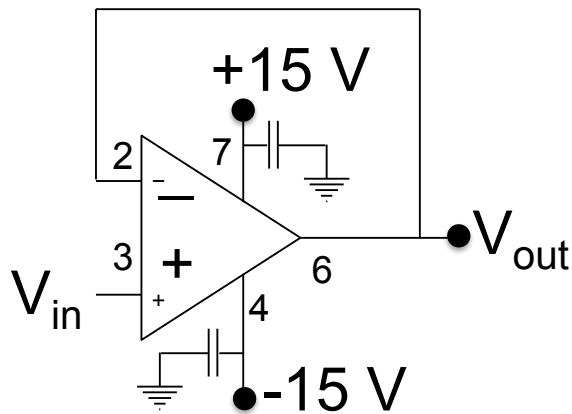
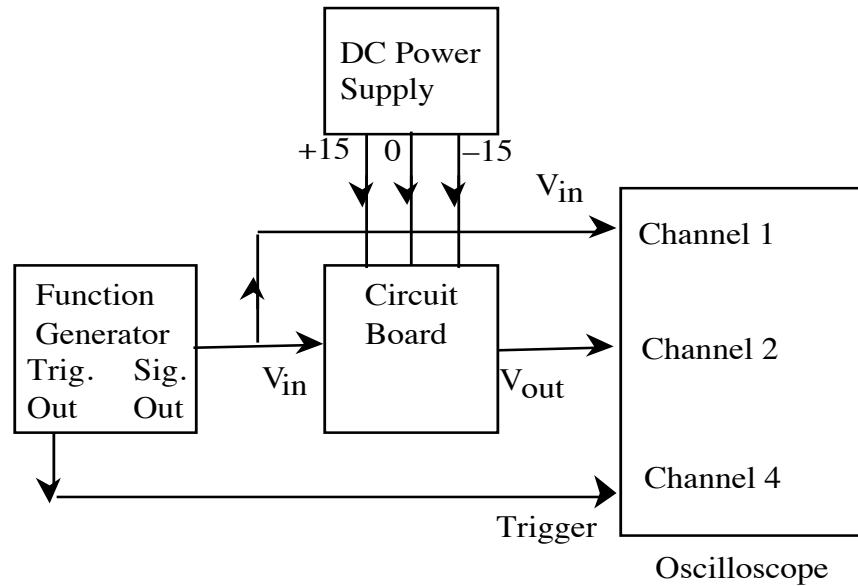

Figure 6. Voltage Follower
Figure 7. Test and measurement setup for op-amp circuits.
Step 3	<p>Low frequency gain and frequency dependence of the gain.</p> <ol style="list-style-type: none">The voltage follower circuit is nearly the same as the test circuit, except that now a signal enters the positive input (Fig. 6). The basic test and measurement setup is shown in Fig. 7.Use the function generator to measure the low frequency gain. What frequency should you use to test the low frequency gain (i.e., what frequency should the signal be below)? Consider the gain-bandwidth product for a unity gain amplifier. What is gain-bandwidth product for this circuit? How did you find the value? What is the predicted gain for the frequency you chose? Measure the low frequency gain G_0 by measuring V_{in} and V_{out} using the scope. Do your measurements agree with your predictions?Now vary the frequency and look for deviation from the performance of an ideal follower model. The measurement at high frequency will depend on many details of your setup and you are unlikely to find a simple RC filter type falloff. Using the 10X scope-probe, measure the gain at every decade in frequency from 10 MHz down to 10 Hz. Do you find any deviation from unity gain? HINT: Be sure that the output amplitude is below the level affected by the slew rate For help, see H&H p. 192. Plot the low and high frequency data and predicted behavior on your Bode plot from your lab prep. Do you find a simple fall-off as suggested by the theory for the ideal follower ($f_T=f_B$)? If so, find the 3dB frequency. How does your measured 3dB frequency compare to what is expected from the op-amp datasheet?If you observed ideal behavior, you're lucky! At frequencies above a few MHz, the simple model of the frequency response of the op-amp is not accurate. Once you are in this frequency range, many physical details of your circuit and breadboard can have large effects in the circuit (see notes in Step 1(d) above) . You could model these effects, but a better procedure to follow is to modify the physical setup. Building reliable circuits at these frequencies typically requires careful attention to grounding and minimization of capacitive and inductive coupling between circuit elements and to ground. Printed circuit boards are much better for high-frequency applications. At lower frequencies, our model of the circuit will work much better.